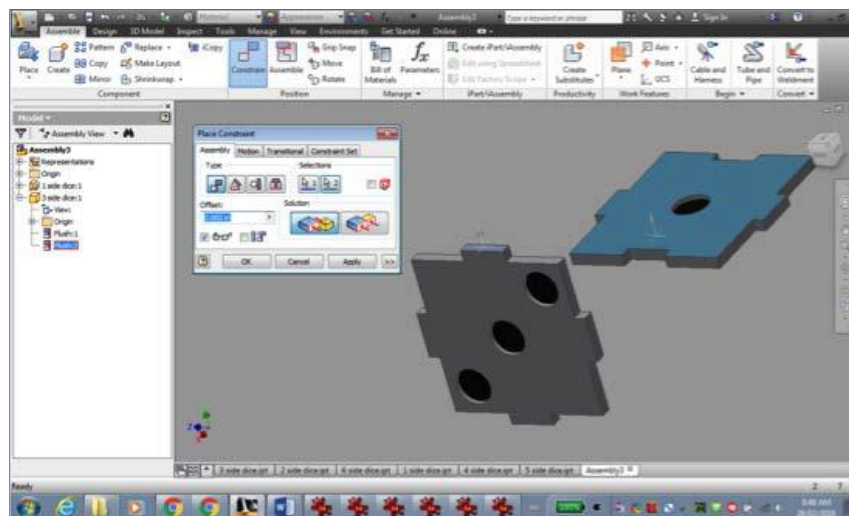

Figure 21
6. Select the next two faces of the pieces as shown in Figure 21 so that they are aligned flush. You may have to switch from “Mate” to “Flush” under the “Solution” in the dialog box to get the faces oriented the right way. Select “Apply” when they are lined up correctly.